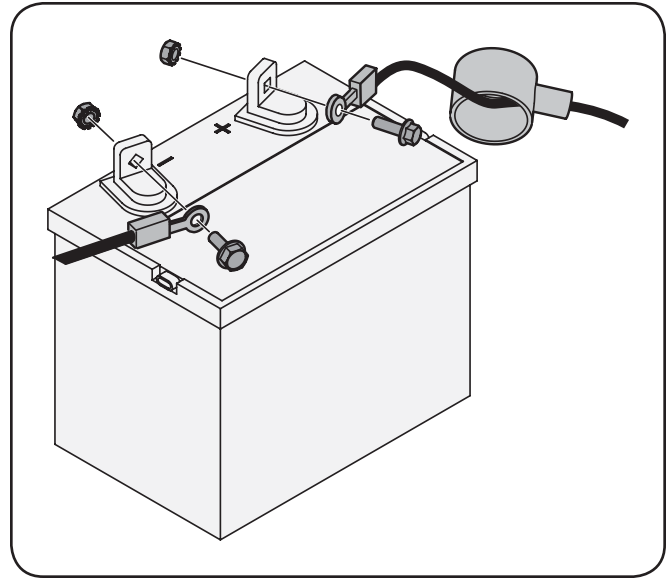

Figure 1-1
1. Remove the plastic cover, if present, from the positive battery terminal and attach the red cable to the positive battery terminal (+) with the bolt and hex nut. See Fig. 1-1.
2. Remove the plastic cover, if present, from the negative battery terminal and attach the black cable to the negative battery terminal (-) with the bolt and hex nut. See Fig. 1-1.